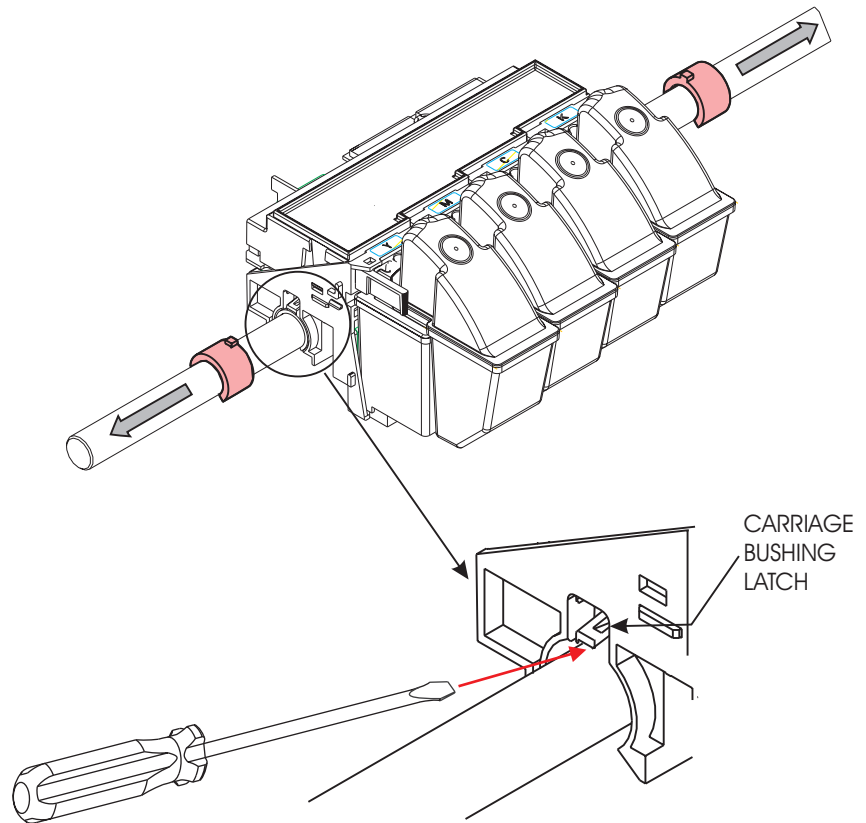

Figure 5-16. Carriage Bushing Removal.
2. Use a flat tip screwdriver to push up on the latch which holds the Carriage Bushing in place. See Figure 5-16.